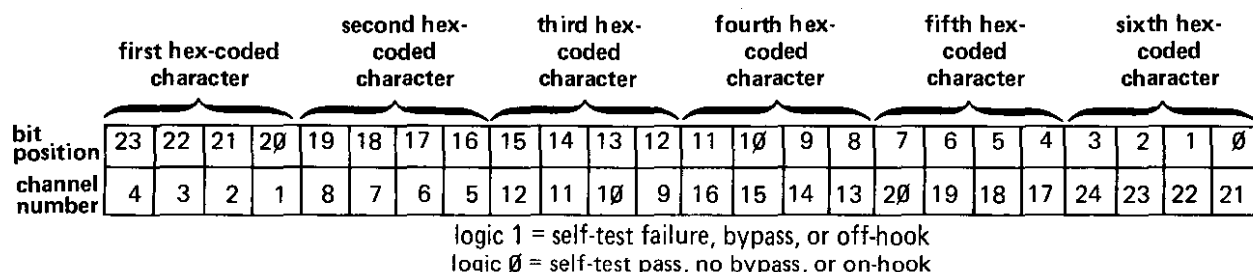

figure 12. Bit map for self-test status (T), bypass status (E), and T1 signaling status (J) commands
5.08 The *self-test result* command (T character) provides a means of determining whether a channel passes self-testing. When the T command is entered with a channel specified, the 251 System first returns the System unit number and channel number (using the protocol described in paragraph 5.03). The 251 System then returns a P character if the channel passes self-testing or an F character if the channel fails self-testing. If the T command is entered with channel 00 specified, the 251 System returns, instead of a single P or F character, six hex-coded characters that contain the self-test status for all channels. To interpret this information, take the first character as a hex digit, convert it to binary, and map it into the first character position in the bit map in figure 12. Then, using the appropriate character positions, repeat this for the remaining five characters. The correspondence between bit position and channel number is shown in the figure. A logic 1 indicates a self-test failure; a logic 0 indicates a self-test pass.
5.09 The *bypass status* command (E character) provides a means of determining whether channels are effectively bypassed. When the E command is entered (channel number 00 must be specified), the 251 System first returns the System unit number and channel number (using the protocol described in paragraph 5.03). The 251 System then returns six hex-coded characters that contain the bypass status for all channels. To interpret this information, take the first character as a hex digit, convert it to binary, and map it into the first character position in the bit map in figure 12. Then, using the appropriate character positions, repeat this for the remaining five characters. The correspondence between bit position and channel number is shown in the figure. A logic 1 indicates that the channel is effectively bypassed; a logic 0 indicates that it is not bypassed.
5.10 The *T1 signaling status* command (*J* character) provides a means of determining channels' on-hook/off-hook status. When the *J* command is entered (channel 00 must be specified), the 251 System first returns the System unit number and channel number (using the protocol described in paragraph 5.03). The 251 System then returns six hex-coded characters that contain the on-hook/off-hook status for **all** channels. To interpret this information, take the first character as a hex digit, convert it to binary, and map it into the first character position in the bit map in figure 12. Then, using the appropriate character positions, repeat this for the next five characters. The correspondence between bit position and channel number is shown in the figure. A logic 1 indicates that the channel is off-hook; a logic 0 indicates that it is on-hook.
Example 3: To obtain the bypass status for all channels of Sytem unit 4, send the following characters in the order given: *d*, 0, 0, *E*. The 251 System returns the following characters: *d*, 0, 0, *F*, 0, *A*, 5, 1, 8. The corresponding bypass bit map is 111100001010010100011000, indicating that the following channels are bypassed: 1, 2, 3, 4, 10, 12, 13, 15, 17, and 24 (refer to figure 12).